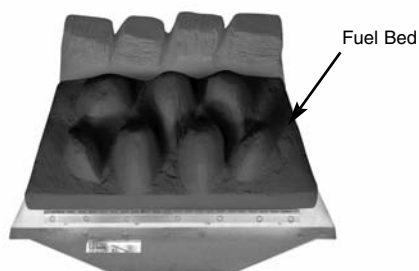

Fig. 83
2. Place the main fuel bed on to the middle section of the metal burner tray. It is important that the front edge of the fuel bed is located behind the burner strip (Fig. 83).